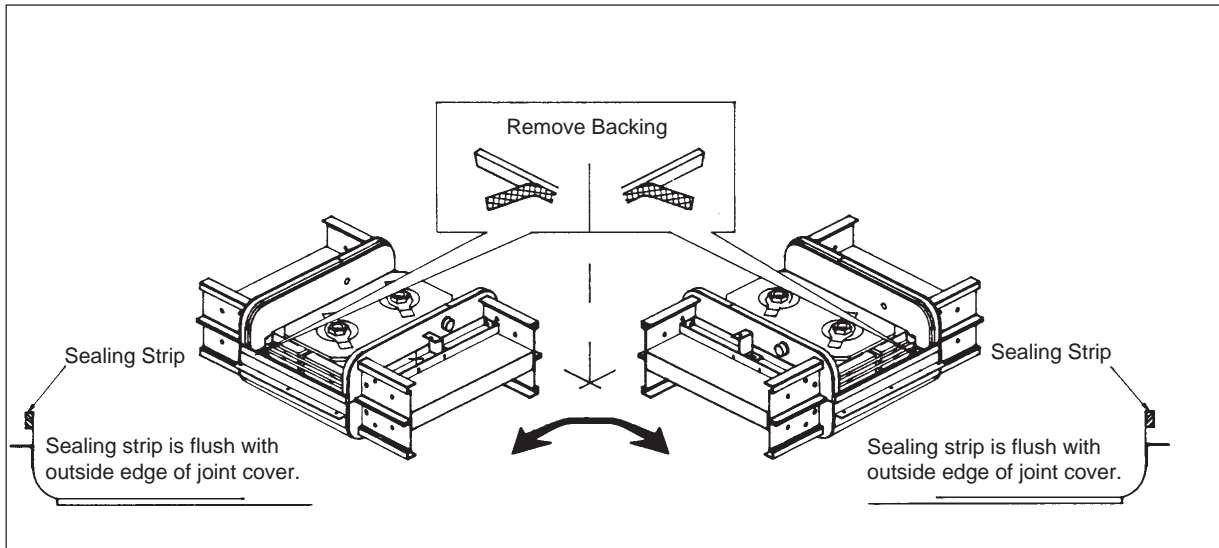

Figure 7
7. Remove the backing from the sealing strip on the cover (figure 7).